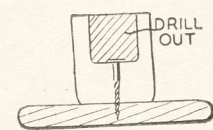
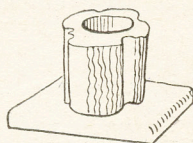

Fig. 6—Details of match holder
Fig. 7—Front and end view of ink stand and pin-rack
piece from the main branch of the antler, to the depth you require. Bore out the centre of the branch to the required depth then countersink a screw through the centre and into the baseboard (B), shown in Fig. 6. A pair mounted on a suitable baseboard make excellent ink-well holders as seen in the diagram at Fig. 7.